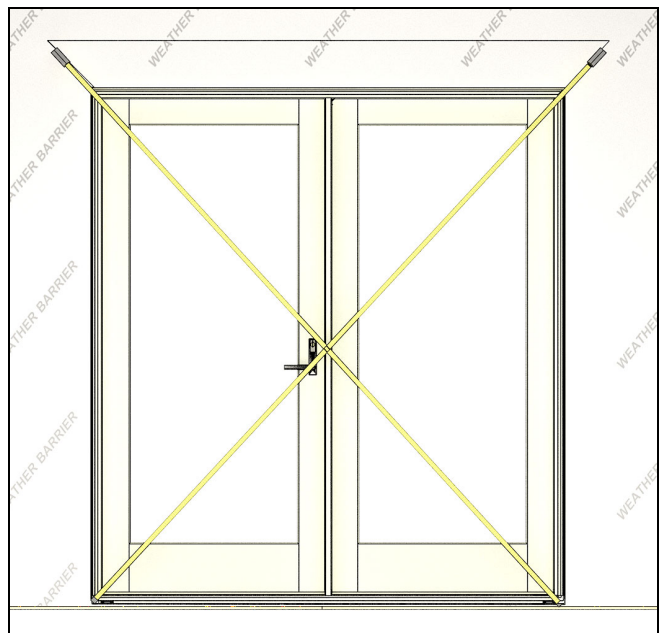

Figure 15
6. Check diagonal measurements for the entire frame. Adjust as necessary by applying shims to the corners 6" (152) from the sill and head jamb. See Figure 15.